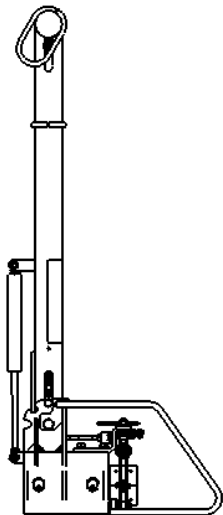

Figure 9.6.5.1 TRAM in the upright or vertical position
2. Remove the M4 Nyloc Nut from the M4 Inner Cable End and discard. See Figure 9.6.5.2.